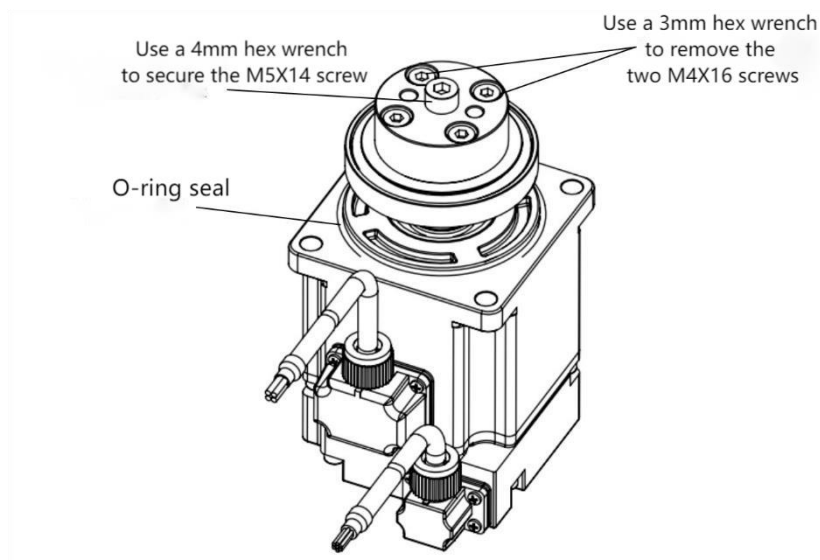

Figure 3-23 Shows the removal of the fixing screws of the reducer wave generator 1
Step 4 As shown in Figure 3-23, remove the fixing screw of the wave generator; fix the 4mm hex key at the middle M5 screw, and then remove the two diagonal M4x16 screws with a 3mm hex key.